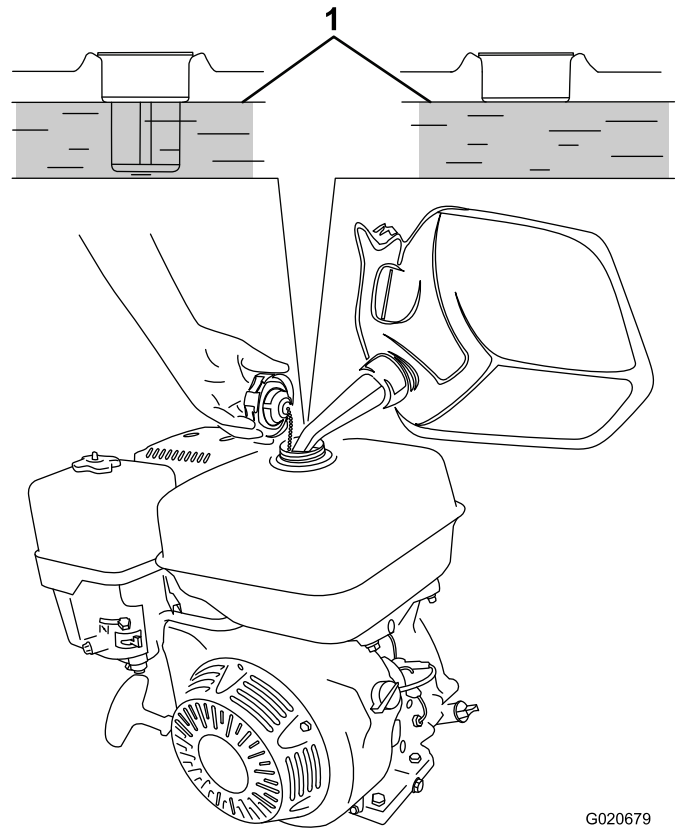

Figure 26
3. Add unleaded gasoline to the fuel tank, until the level is at the bottom of the maximum fuel level, as shown in Figure 26.